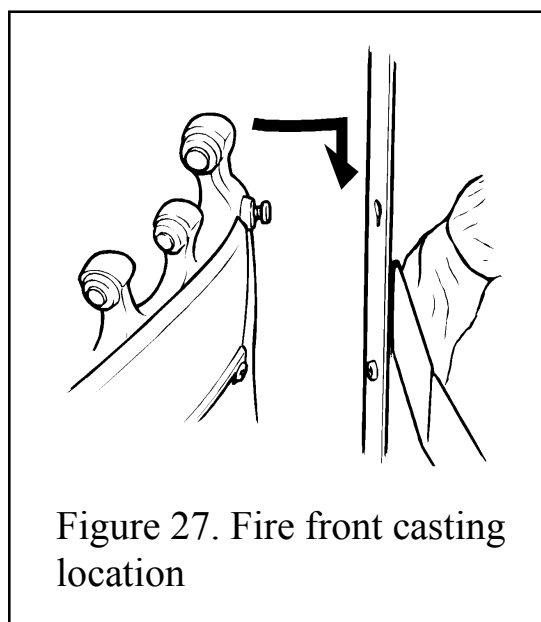

Figure 27. Fire front casting location
1. All models except black & chrome front casting: Fit the fire front casting to the front surround. Locate the two screw heads at the rear top corners of the casting through the keyhole slots at the inner sides of the surround. If the screw heads do not project enough or project too far, the screws can be adjusted. Lower the casting so that it rests on the hearth. See figure 27.